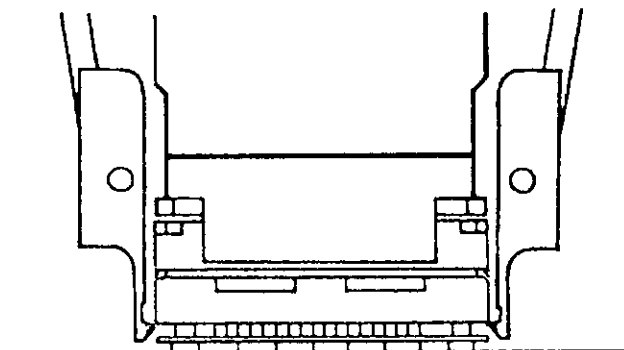

Figure 7
3. While squeezing the tool handle, apply a light pressure in the direction of the printed circuit board. The tool should engage the assembly as shown in Figure 7.